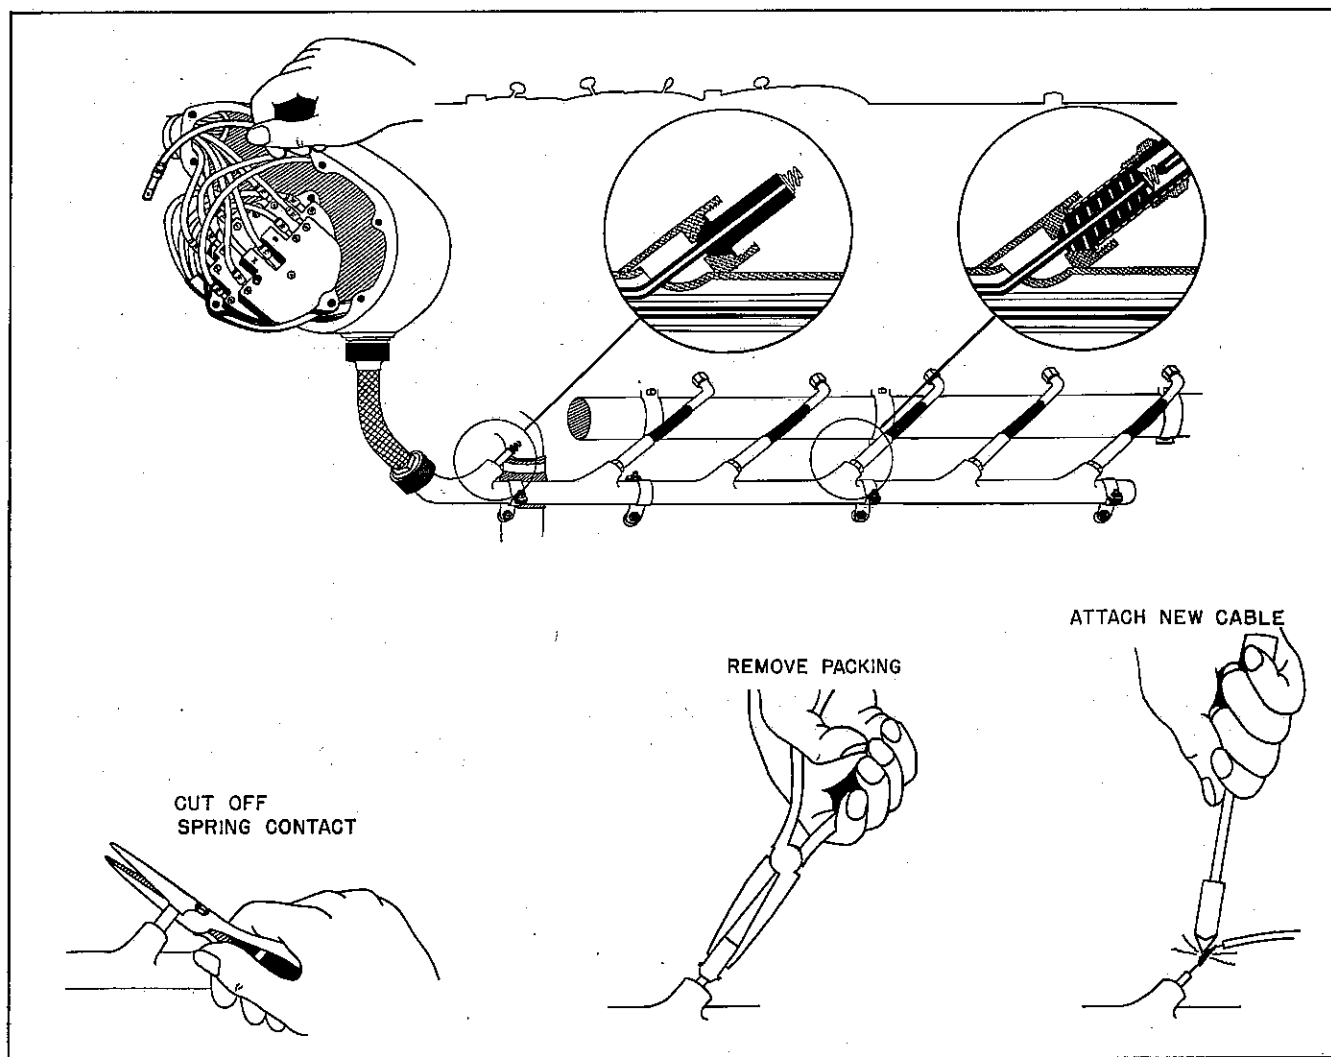

Figure 68—Removing Defective Exhaust Ignition Tube Cable.
(1) To replace a defective cable in the exhaust ignition tubes, first remove the spring contact washer from the cable by cutting the cable immediately behind the washer. (See Figure 68.) Slip the branch tube packing off the cable. Refer to the "Table of Cable Lengths" shown in the following paragraph c. and cut new cable length for the replacement. Solder the new cable to the old at this end, and dust with talc or soapstone to prevent seizing or friction. Pull the old cable out, at the same time feeding the new cable in carefully so as not to injure its protective coating. Leave approximately four inches extending from the exhaust branch tube and slip a new rubber packing sleeve over this end. Next install the spring contact washer by cutting the cable insulation squarely, leaving approximately $\frac{1}{8}$ "